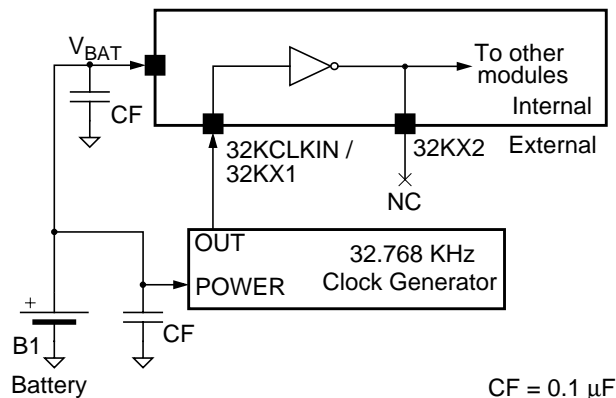

Figure 106. External Oscillator Connections
32.768 KHz can be applied from an external clock source, as shown in Figure 106.